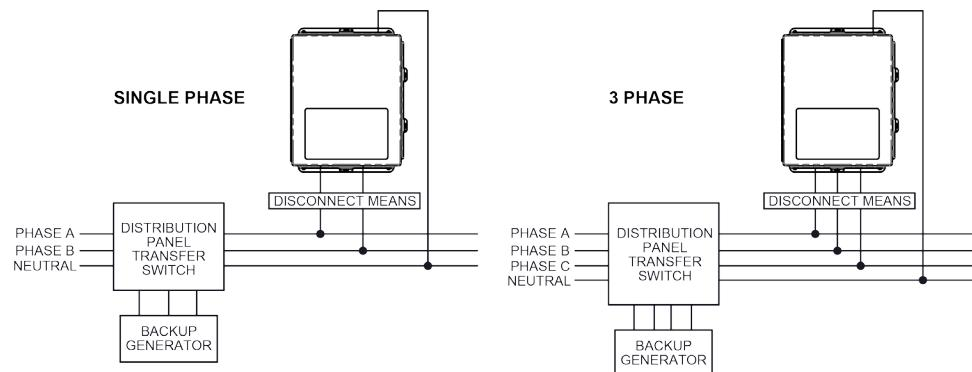

Figure 2 - System Wiring Diagrams
The HT-AI-IMAX-120 suppression cabinet must be installed by a licensed electrician and/or qualified personnel! The device is intended to be wired in parallel with the load or electrical system wiring as shown in Figure 2. Compression lugs are provided inside the cabinet for the phase, neutral & ground connections; all lugs should be torqued to 27ft-lb for proper installation. It is recommended that all wiring entering and exiting the enclosure be housed in grounded metal conduit to maintain the integrity of the containment of high energy transient events. All four (4) latches must be securely fastened for the suppression cabinet to operate as intended for high energy transient events.